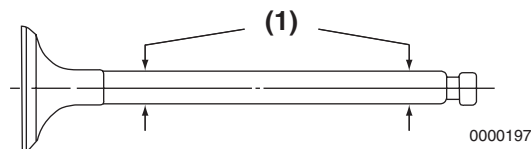

Figure 6-18
Use a micrometer to measure the valve stem diameter. Measure the valve stem near the combustion end and near the opposite end (**Figure 6-18, (1)**). See *Intake / Exhaust Valve and Guide* on page 6-7 for the service limit.